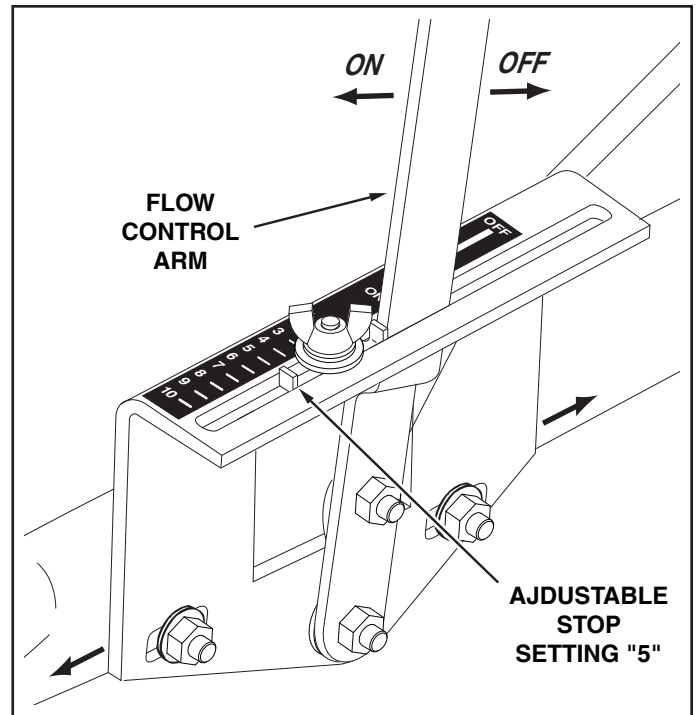

FIGURE 13
22. Position the flow control mounting bracket (figure 13).
(Refer to figure 13 on page 7.)